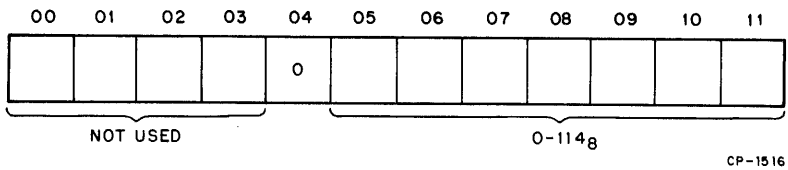

Figure 4-4 RXTA Format (RX8E)
**4.3.3 RXTA – RX Track Address (Figure 4-4)**